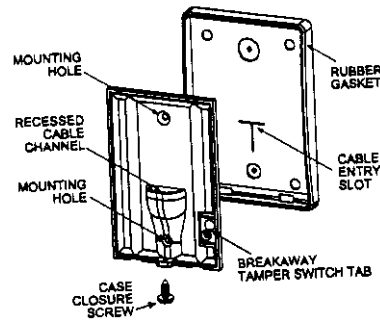

Figure 4 - Base and Rear Sealing Gasket
**Important:** The Tamper switch is activated when the TIAB control unit's front cover is removed or when the base is forcibly pulled from the mounting surface, which causes tamper switch tab to break (see figure 4). It is therefore especially important to firmly attach this tab to the wall with a long screw.
Use # 20 AWG or larger for connections between relay and door strike or other switching devices. All other connections are to be made with # 22 AWG or larger. Route the wires through the slot in the rubber sealing gasket (see figure 4) and the recessed entry channel in the TIAB control unit base. Verify that there is no contact between uninsulated wires and the printed circuit board.